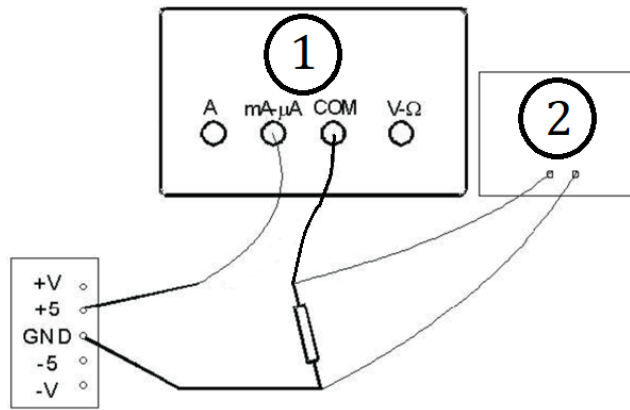

Figure 1.12: Circuit for item 2. ① is a multimeter, working as ammeter. ② is the AD laboratory's voltmeter.
2. Build the circuit in figure 1.12. Measure the electrical potential and the current for each of the three resistors. Fill in the lower part of the table above and show it to the instructor.